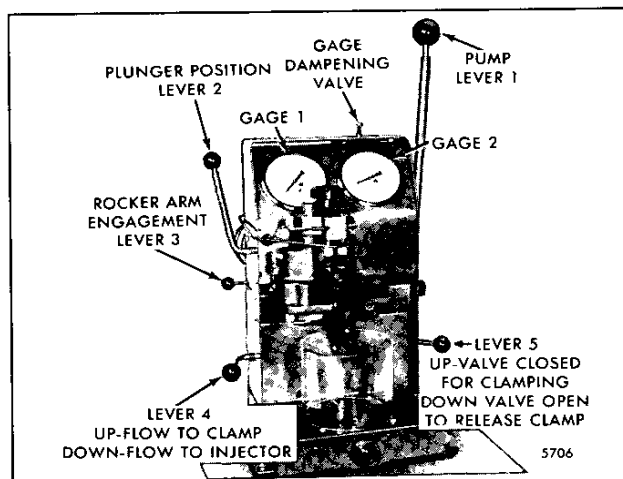

Fig. 34 - Injector in Position for Testing with Tester J 23010-A
1. Clamp the injector properly and purge the air from the system (Fig. 34).
1. Clamp the injector properly in Tester J 23010-A and purge the air from the system (Fig. 34).